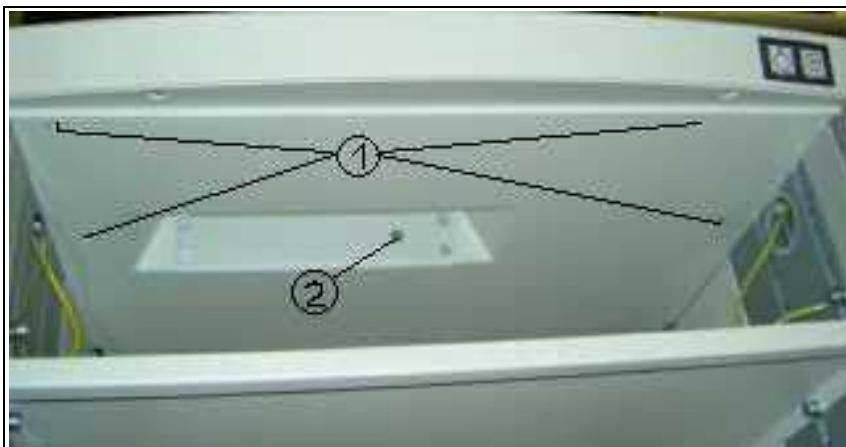

Fig. 45: Replacing the keyboard\_3
1. Remove the 4 screws (1/Fig. 45 / p. 90).